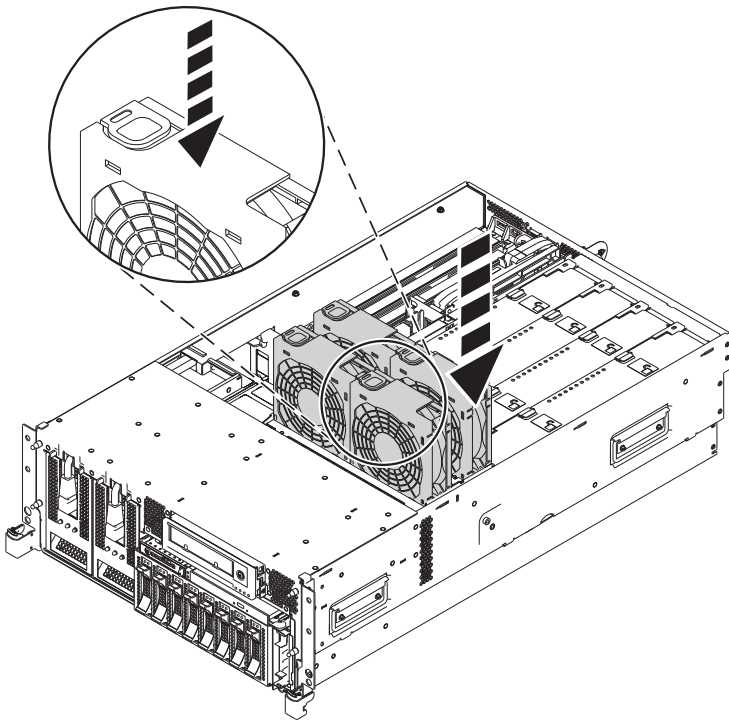

Figure 21. Installing the fans in the fan cage
- c. To install the fans, insert the fans into their locations in the fan cage, and push down on each fan until it locks into place, as shown in Figure 21.